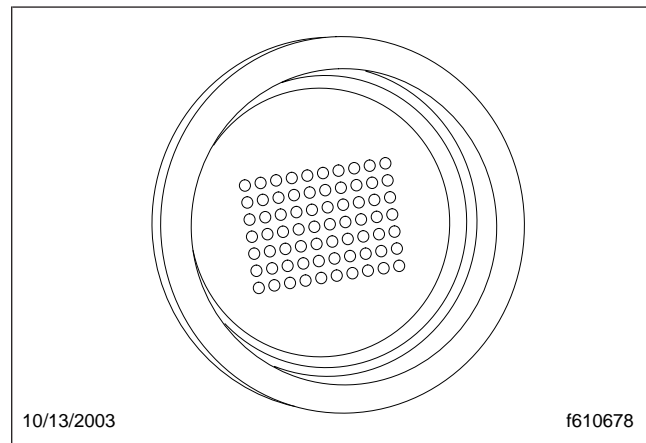

Fig. 8.6, Power Up Dot Display
3. After the ignition is turned on, the current gear indicator shows the dot display, arranged in a square pattern. All dots in the pattern should light up, without gaps or spaces. See **Fig. 8.6**.